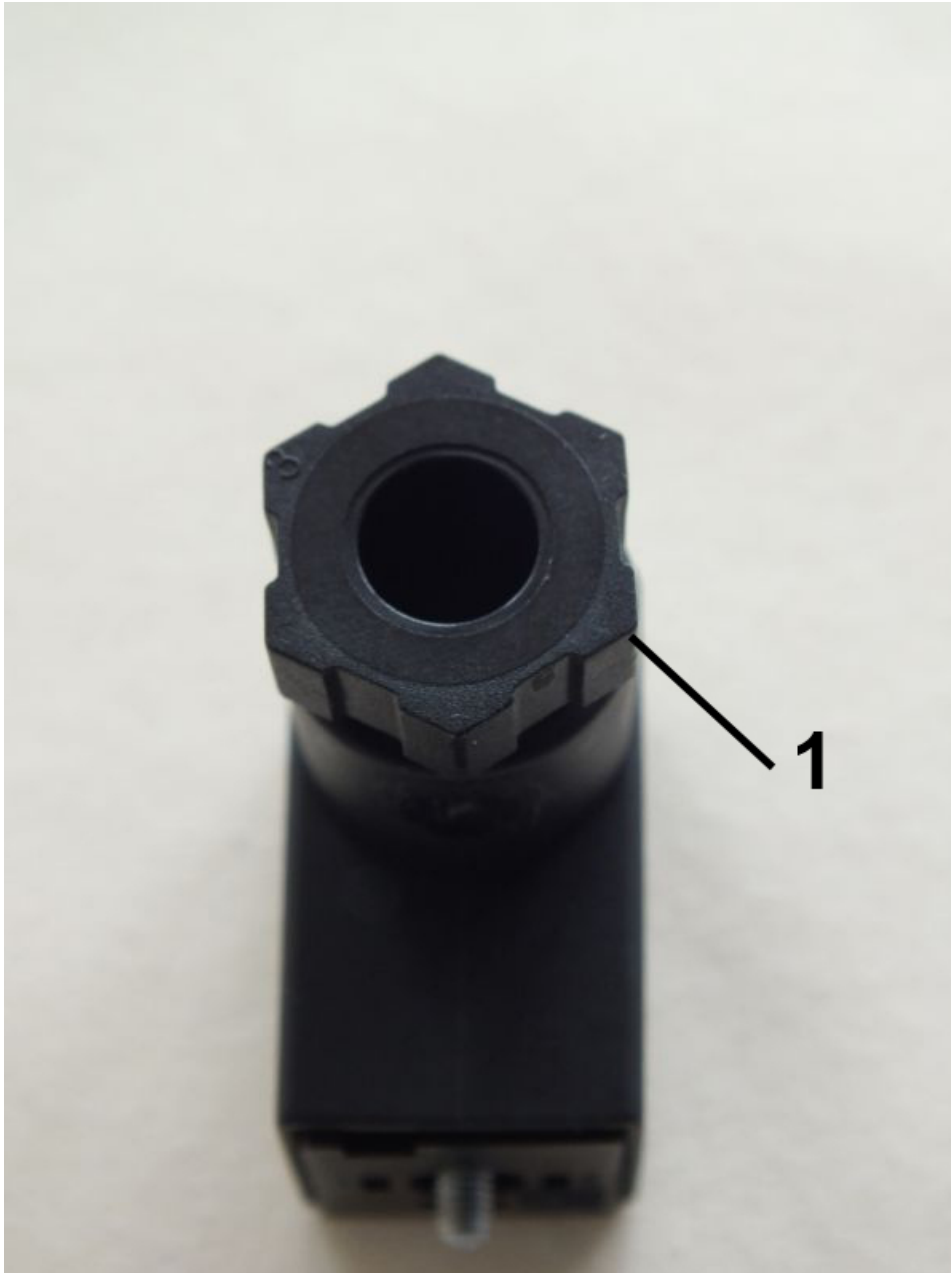

Fig. 23: Loosen the screw connection
- 4.** ➤ Unscrew the screw connection (*Fig. 23/1*) by turning it to the left
- 8.** ➤ Retighten the screw connection (*Fig. 23/1*) by turning it to the right